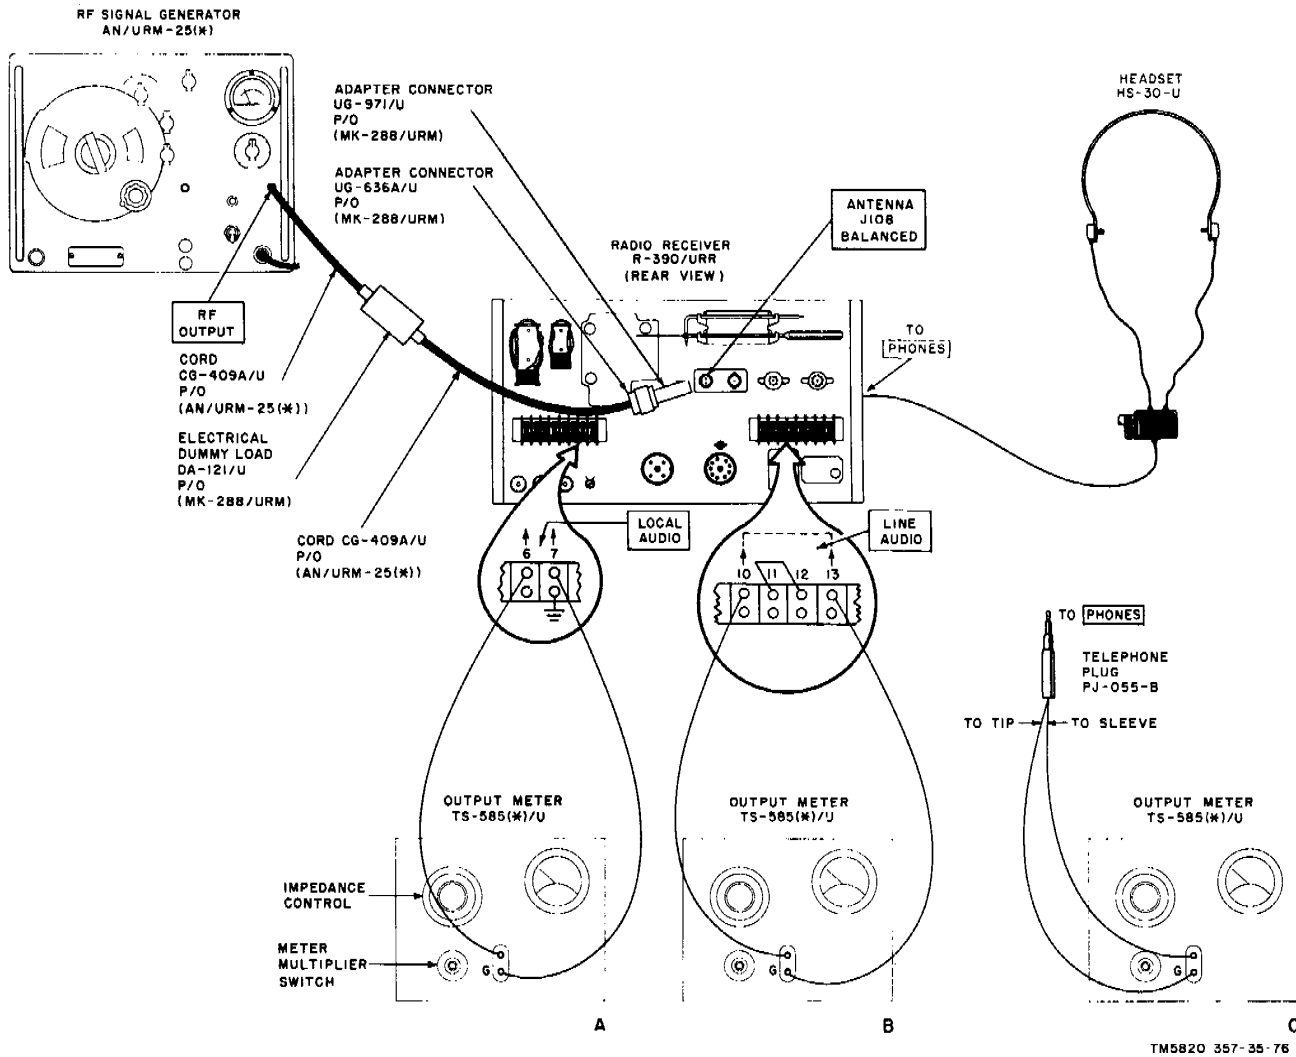

Figure 51. Audio output test setup.
(fig. 51)
b. Test Connections and Conditions. Connect the Equipment as shown in A, figure 51.